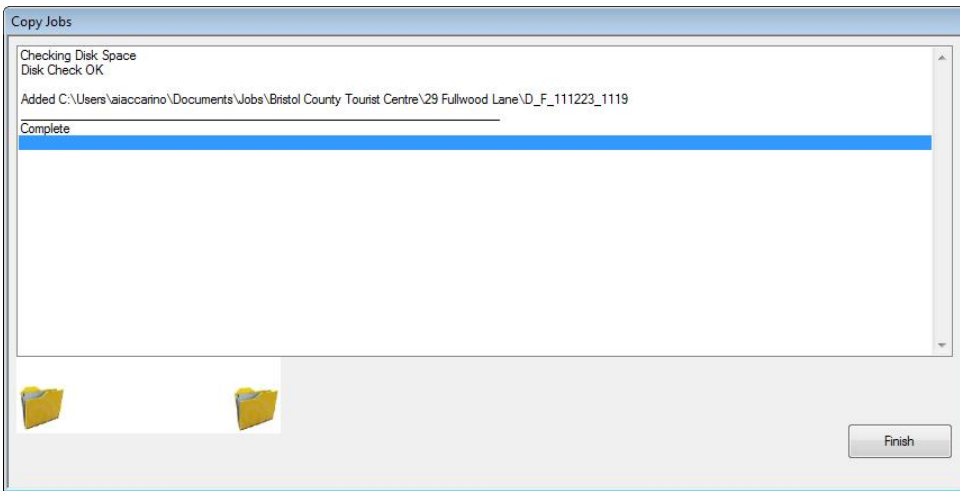

Figure 3.10 Copy Jobs summary screen
6. The Copy Jobs windows will appear (Figure 3.10) and when the copy is completed, it will show you the location of the new survey folder. Press **Finish** to continue.